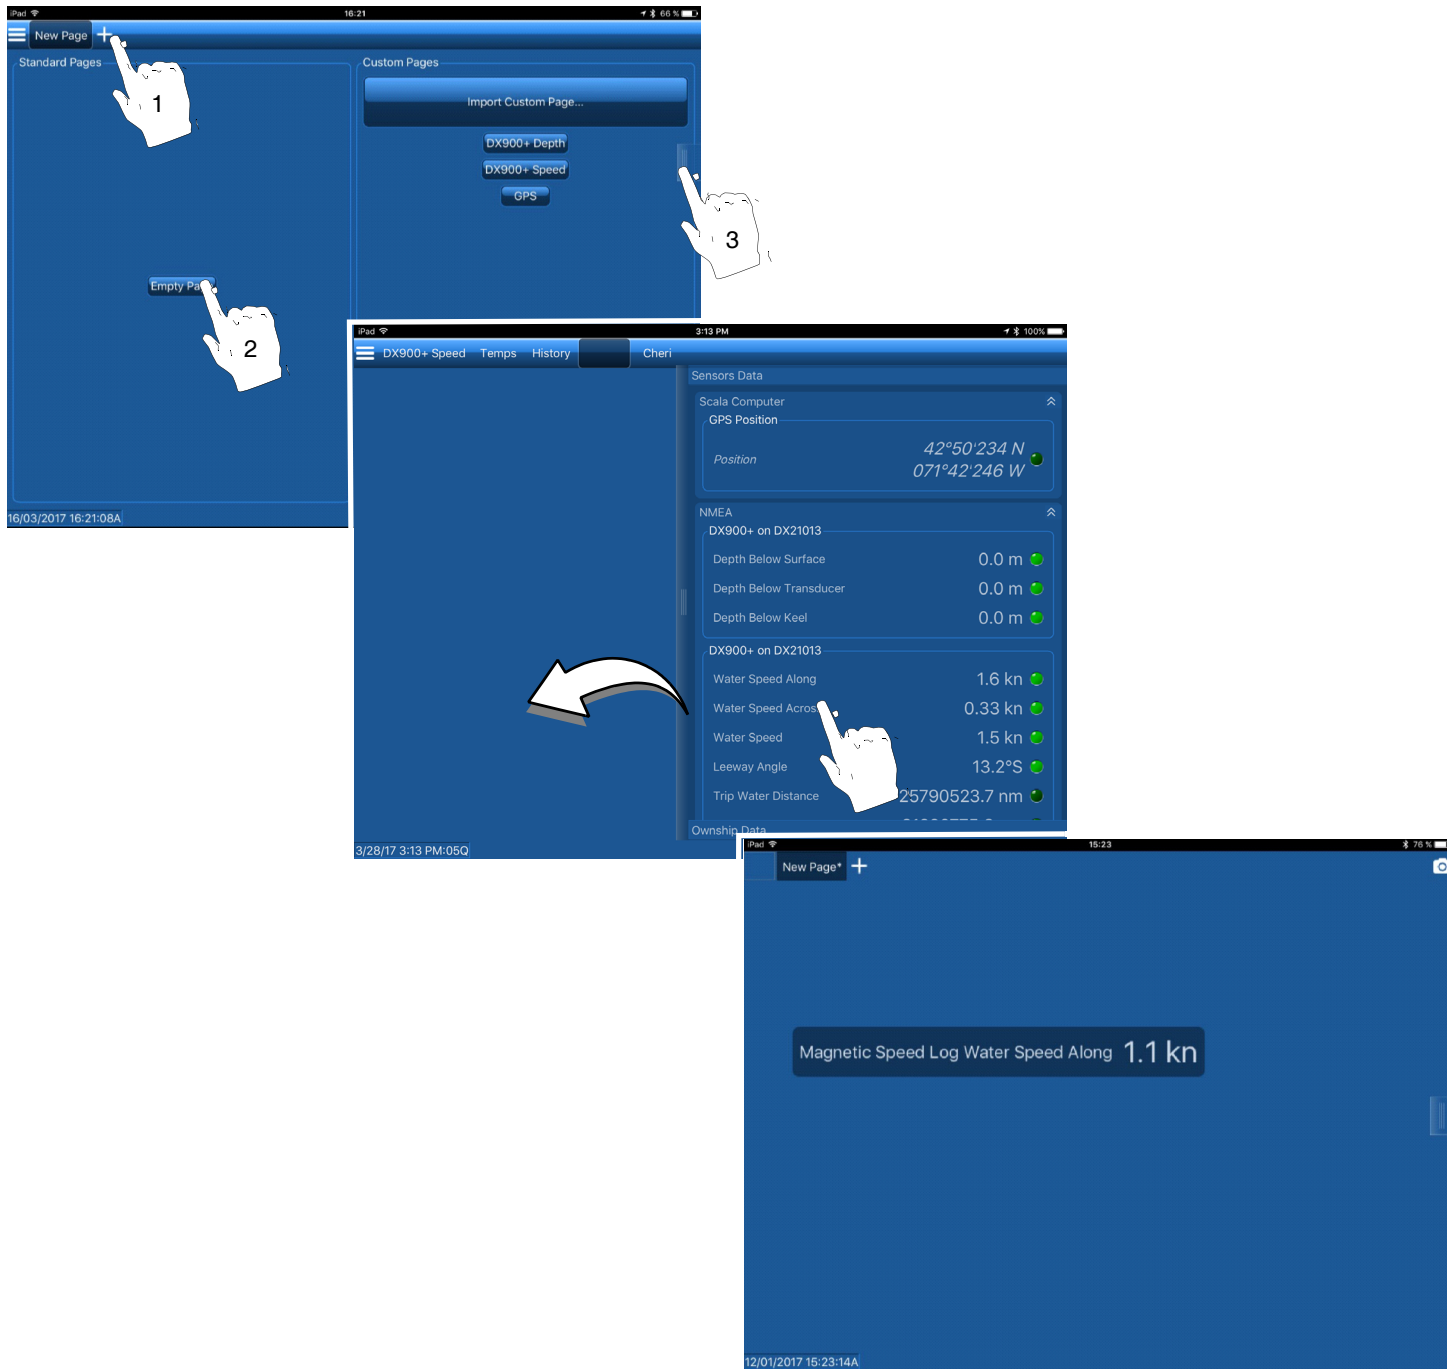

Figure 23. Creating a Custom Page and selecting data to display (Water Speed Along shown)
5. Touch **+** to create a new custom page (Figure 23).